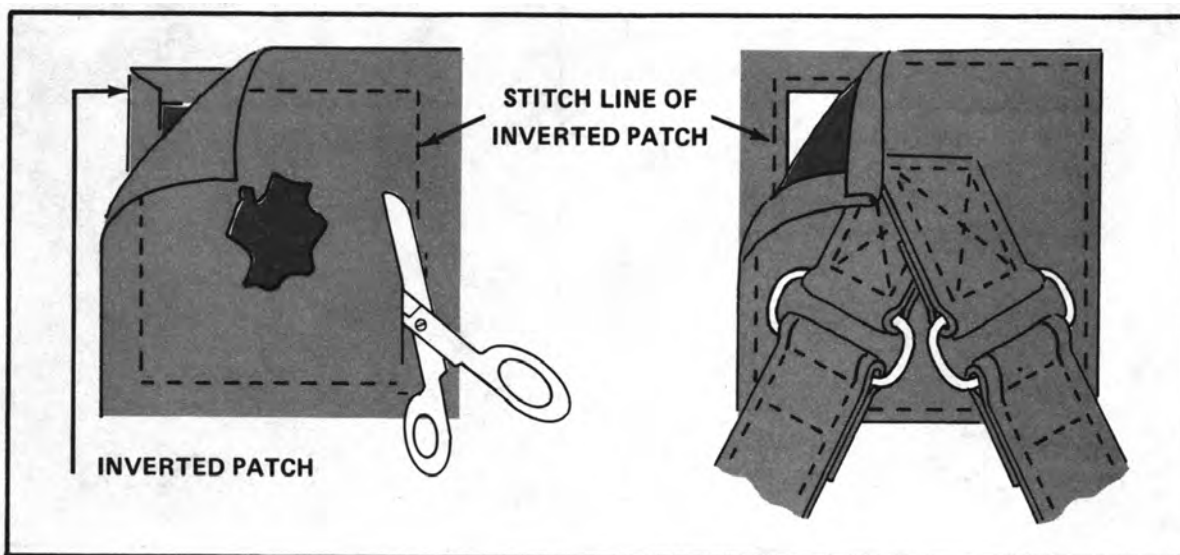

Figure 9-14. Double-thickness patch
(2) Double-Thickness. A double-thickness patch (Figure 9-14) consists of a top patch and an inverted patch. It is used when a strap gets a lot of strain and an extra layer of canvas is needed to give strength to the repair. To make a double-thickness patch--